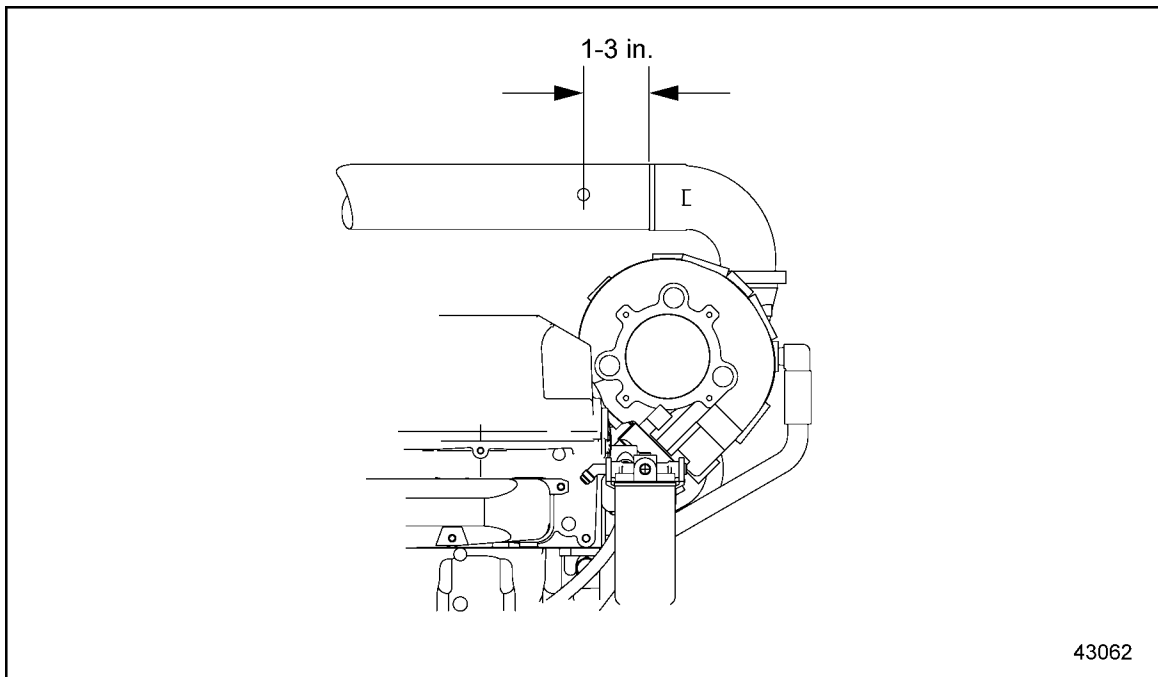

Figure 1 Adaptor Insertion Location
1. With the engine at ambient temperature and cool to the touch, mark the adaptor insertion location on the CAC (charge air cooler) pipe. This should be 1 in. – 3 in. (25.4 mm – 76.2 mm) from the end of the compressor outlet pipe. See Figure 1.